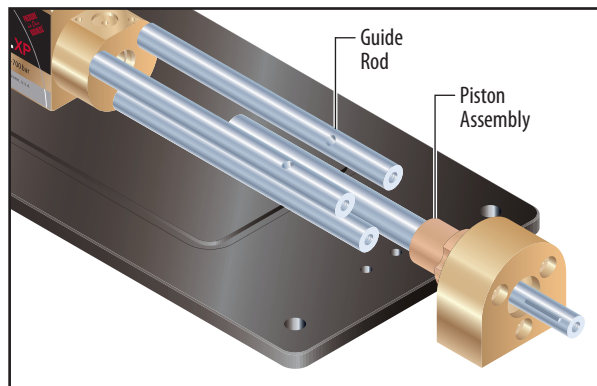

Figure 6
- 9 Carefully pull to slide the Bearing Block and Piston Assembly from the Manifold Block and Baseplate, taking care to avoid making contact with the three guide rods (**figure 6**).